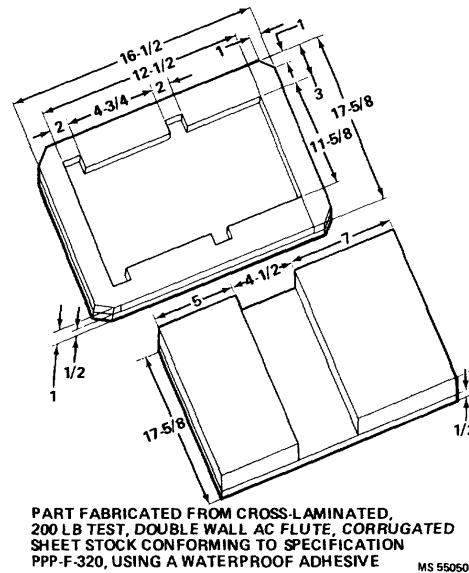
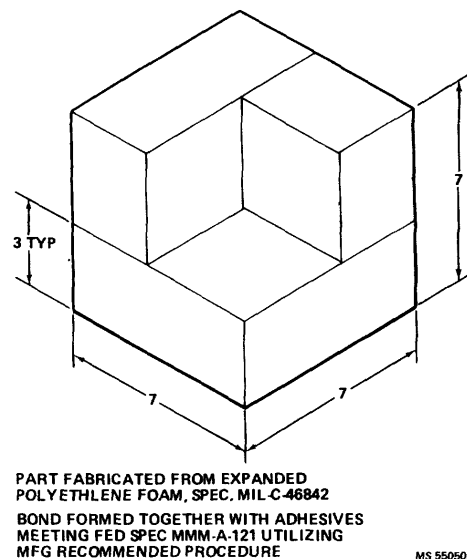

Figure C-2. Mount Drive Control Box Blocking Top and Bottom
Figure C-3. Mount Drive Control Box Corner Block
- (1) Apply intimate wrap using two pieces of 24 x 24-inch, 4-mil polyethylene sheet placed between blocking and the part.
- (2) Block using blocking as shown in figure C-2.
- (3) Place in a fiberboard container (17-5/8 x 16-1/2 x 10 inches).
- (4) Seal container using two pieces of 24 x 2-inch lengths of adhesive paper tape.
- (5) Cushion, using corner blocking as shown in figure C-3.